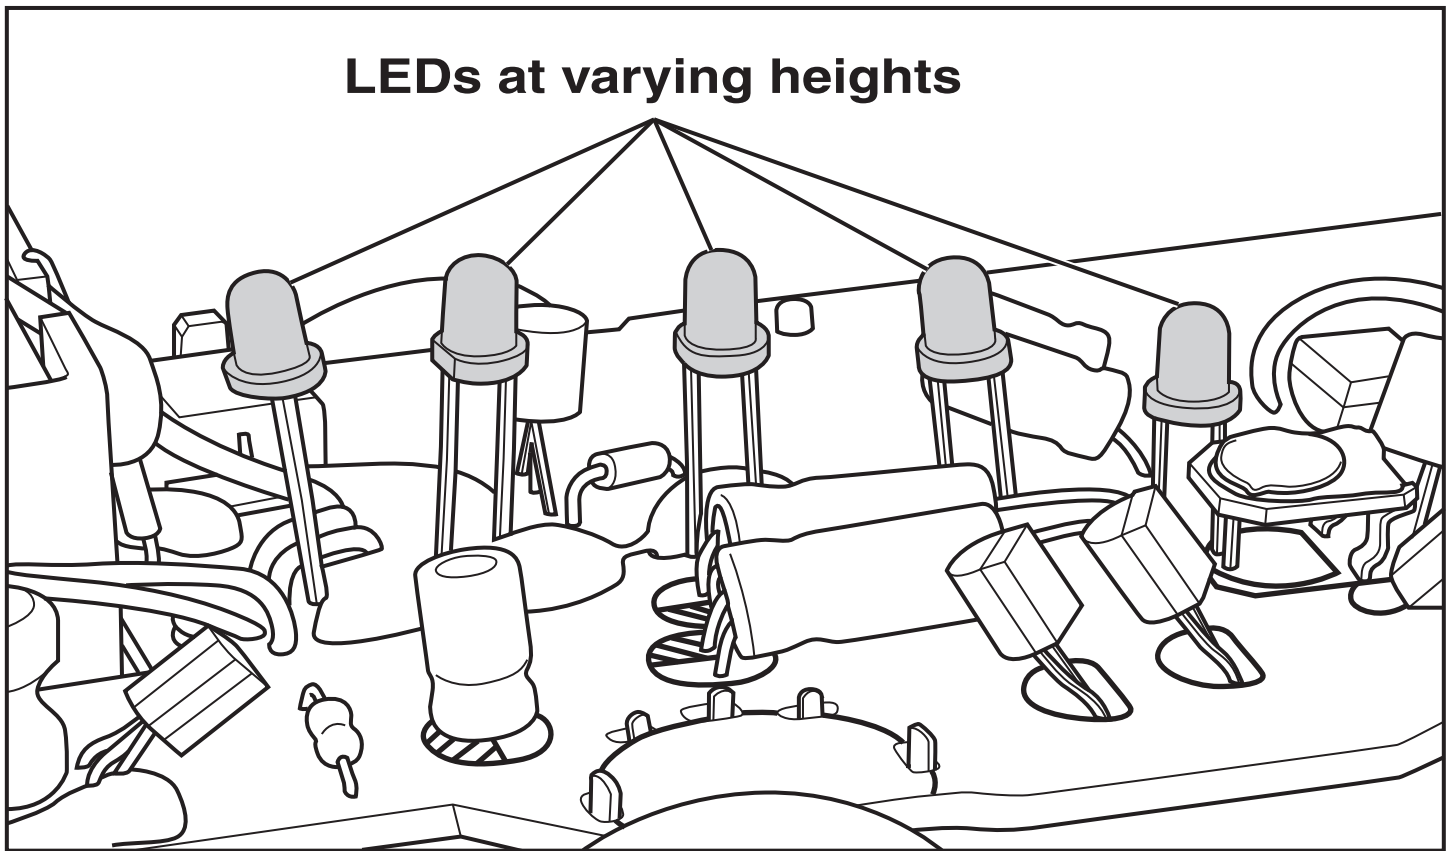

Fig. 7
**(d) Fig. 7 shows the LED indicators on the circuit board.